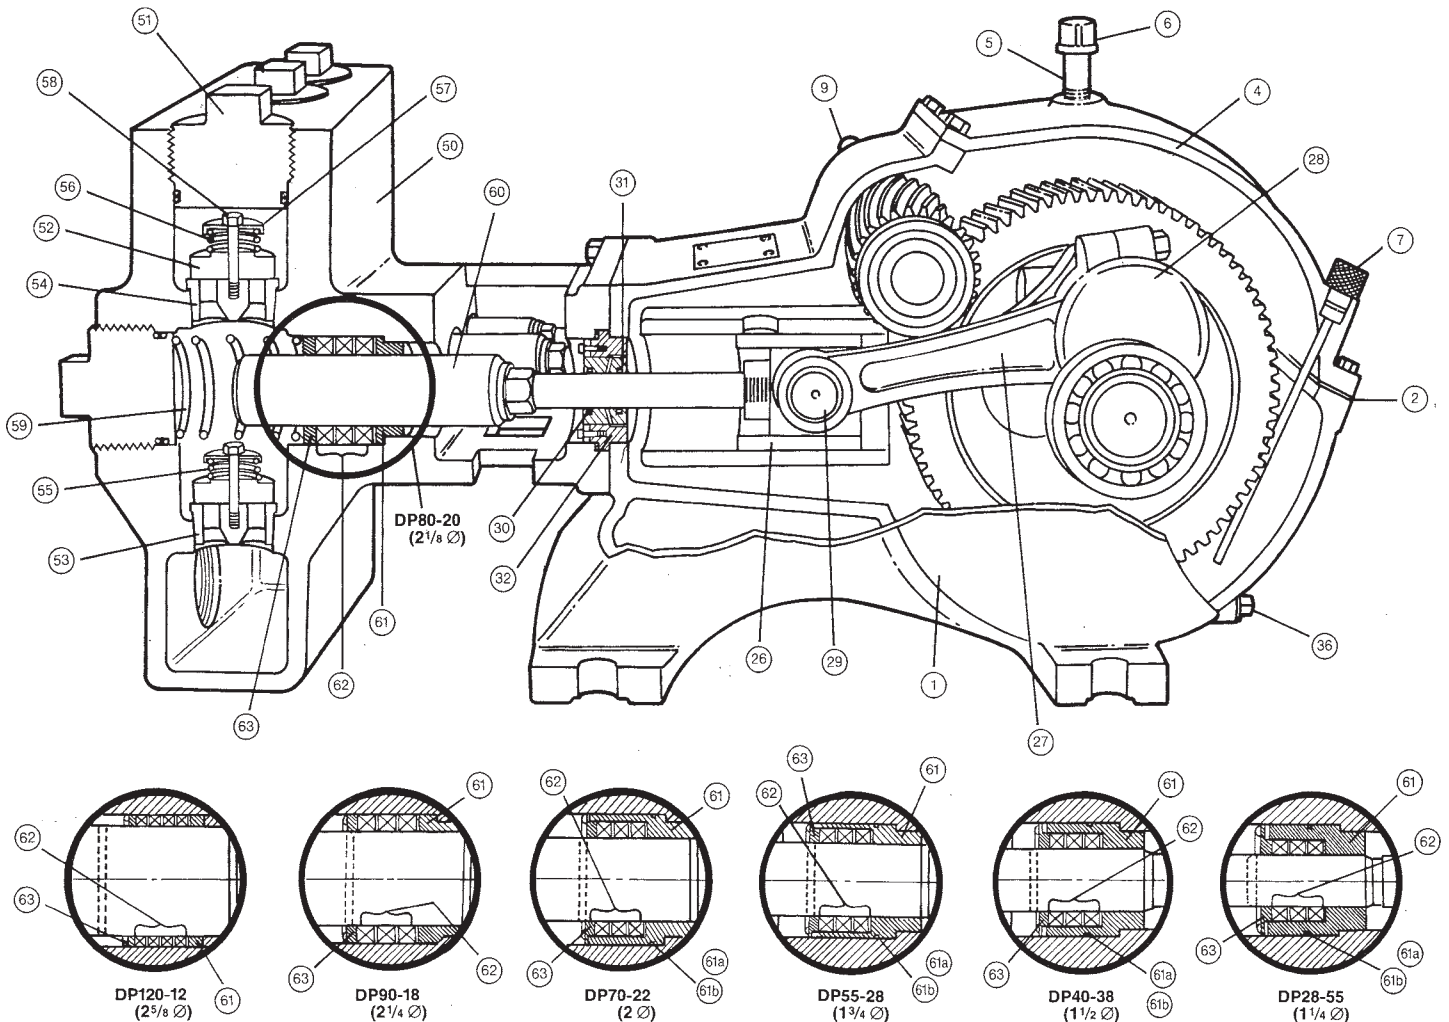

FIG. 1 DP Series Plunger Pump
1. Refer to Fig. 1 for plunger packing arrangement for each model. Note that the anti-extrusion spacer ring is to be installed on back side of each braided packing.
3. For models DP120, DP90 and DP80, slide AL-BR seal back ring (61) into bore until it bottoms out and seats in place.
- 3a. For models DP70, DP55, DP40 and DP28, place spacers and braided packing rings (refer to Fig. 1) into the seal cartridge (61). Make sure braided packing is installed in staggered position.
4. For DP120, DP90 and DP80, place spacer and packing into bore, make sure that braided packing rings are installed in staggered position. (Refer to Fig 1).
- 4a. For models DP70, DP55, DP40 and DP28, check O ring (61a) and back-up ring (61b), replace if you see any sign of wear. Slide the seal cartridge (61) into seal bore until it bottoms out.
5. Place spring washer (63) into bore as shown in Fig. 1.
7. Place packing spring (59), check O ring and back-up ring in valve cap (51). Replace if you see any sign of wear.
- B. Reassemble valve, spring, and spring retainer as shown in Fig. 1. Be sure that springs are in correct location. The heavier spring (larger diameter wire) is always installed on upper or discharge valve.